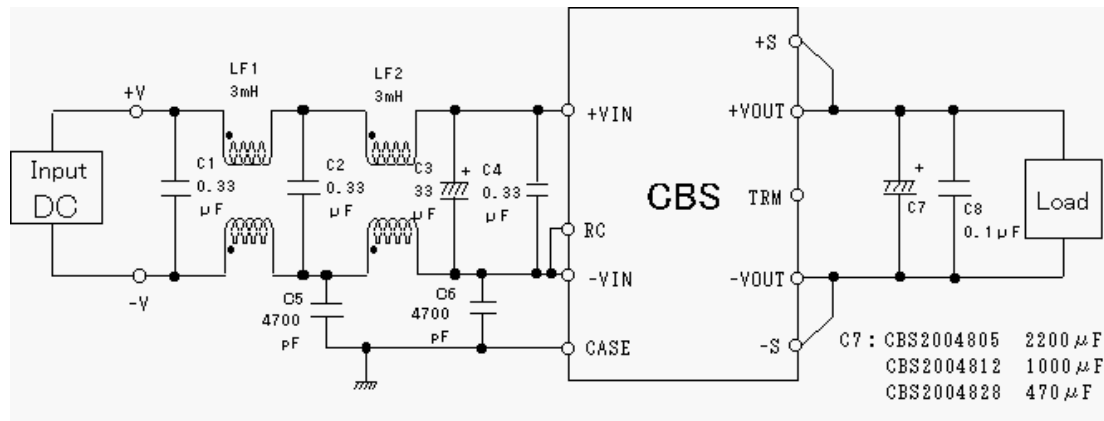

Fig.1 Testing circuitry
(1) Input : DC48V
(2) Output : Rated output
(3) Ambient temp. : 25±10°C
(4) Testing circuitry : Fig.1